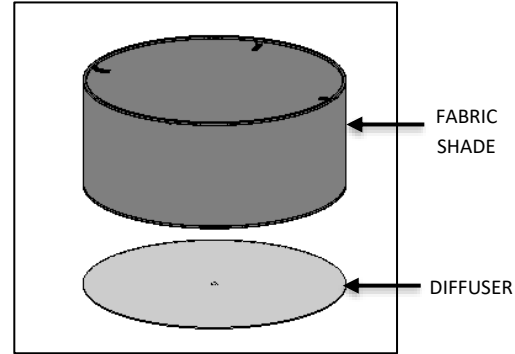

FIG. 24 – DIFFUSER INSTALLATION
11. Insert DIFFUSER into FABRIC SHADE by sliding in at an angle through the bottom (side with no brackets as shown in FIG.24). Be careful not to damage the fabric. DIFFUSER will rest on the frame of fabric shade.